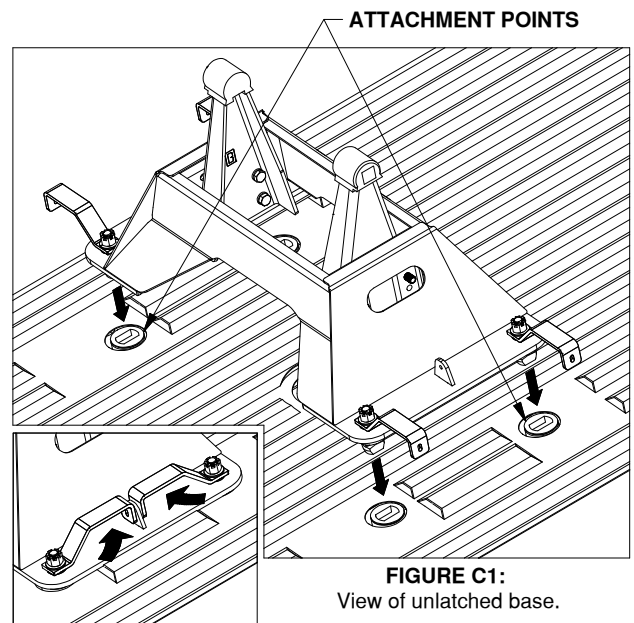

FIGURE C2:
2. **Prepare to adjust latch tension.** Once the base is in place, remove the cotter pins from each of the four castle nuts. Engage the cams with each attachment point by turning the latch handles back to their latched position, see Figure C2. If a handle will not turn easily, loosen the castle nut until the cam will freely turn and engage the attachment point.